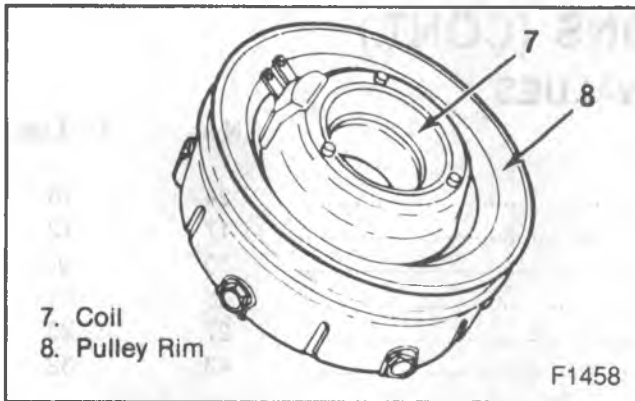

Figure 103—Clutch Coil, Pulley Rim, Rotor and Bearing Assembly
- Clutch (7), pulley rim (8), clutch rotor (5) and bearing (6) (figure 103).